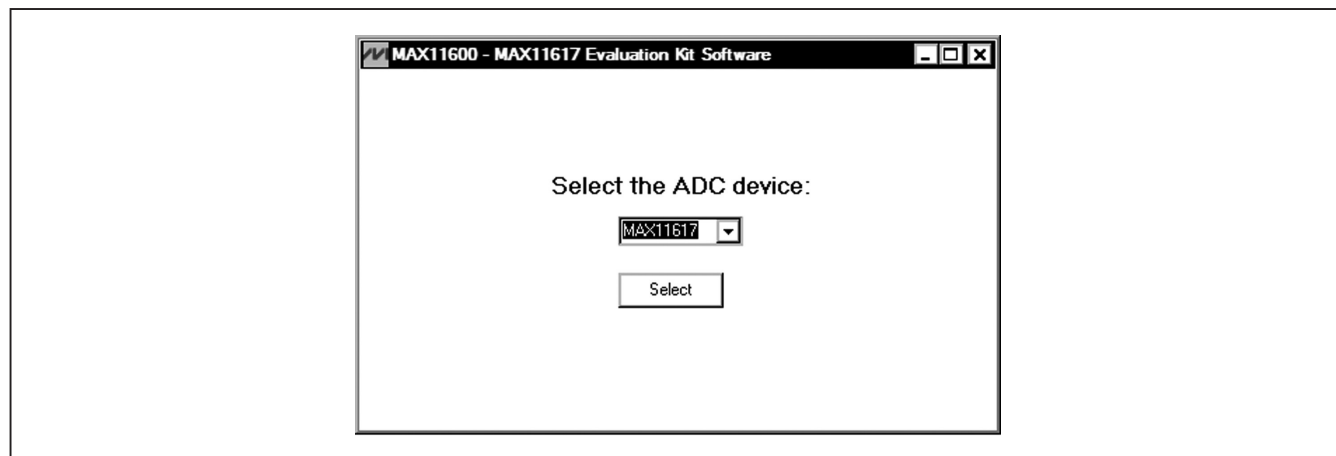
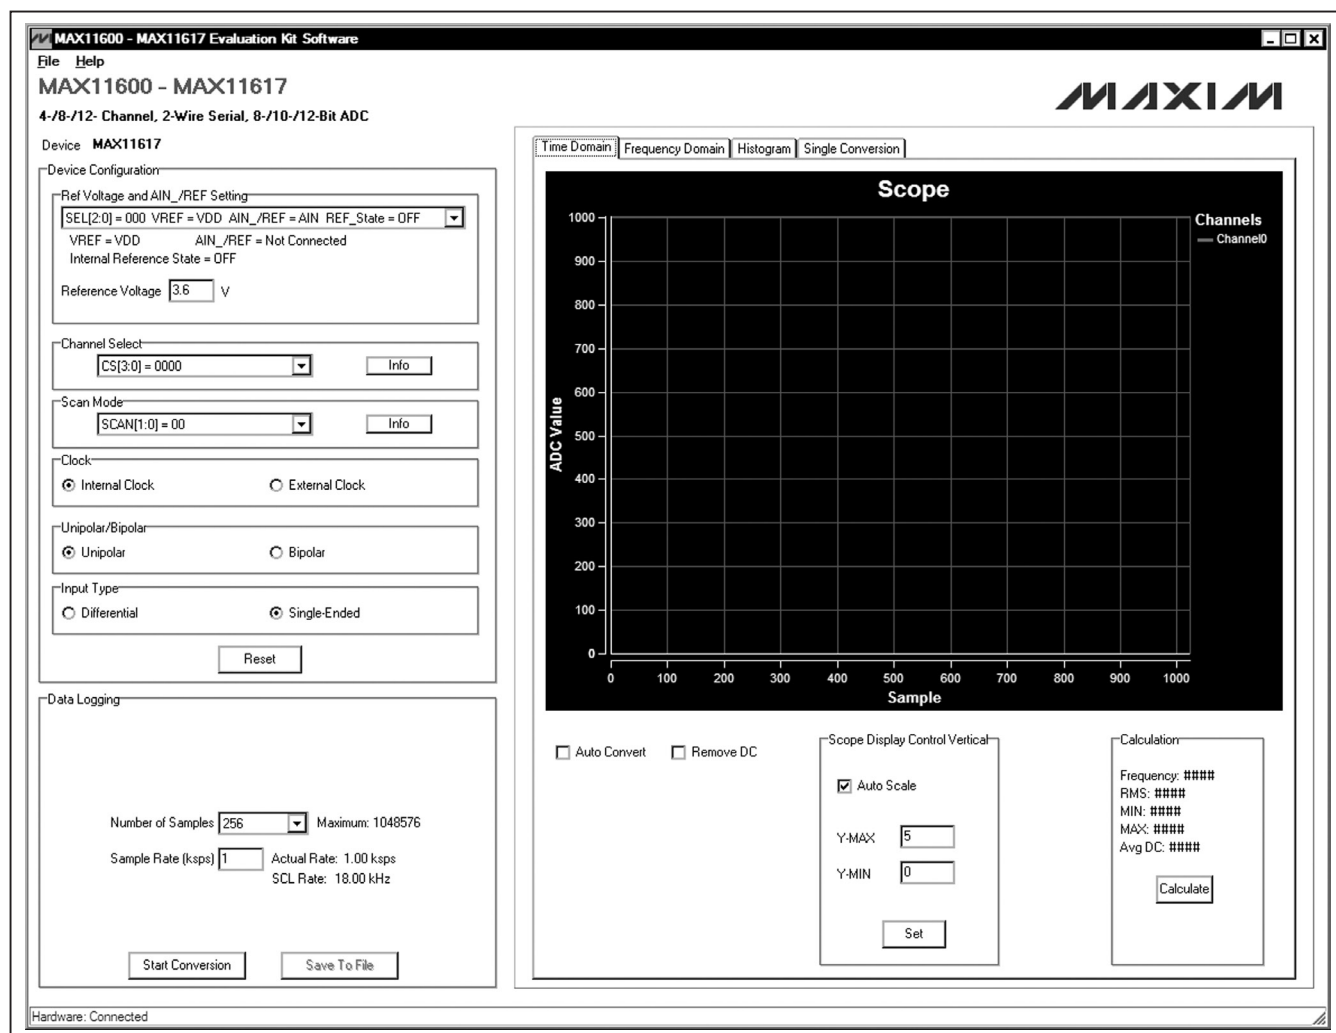
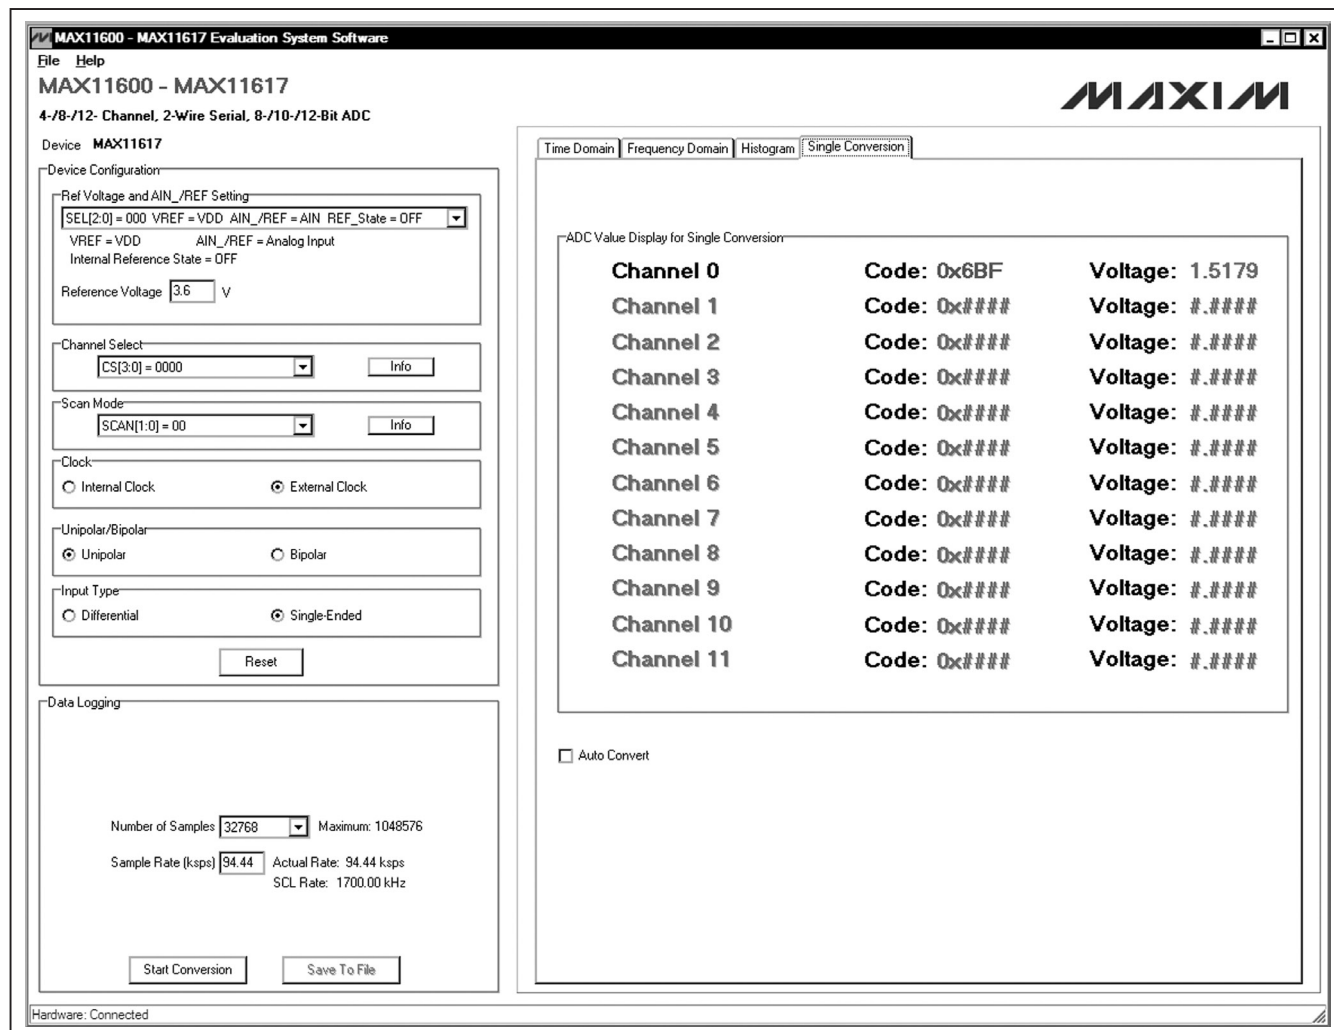

Figure 1. MAX11600-MAX11617 EV System Software Device Selection Window
Figure 2. MAX11600-MAX11617 EV System Software Main Window
Figure 8. Single Conversion Tab
- 11) Start the MAX11600–MAX11617 EV system software by opening its icon in the **Start | Programs** menu. The EV system software device-selection window appears, as shown in Figure 1. Select the appropriate device from the **Select the ADC device** drop-down list. The EV system software main window appears, as shown in Figure 2.
The MAX11600-MAX11617 EV system software supports all the MAX11600-MAX11617 ADC devices. When the EV system software starts up, select the appropriate device from the **Select the ADC device** drop-down list shown in Figure 1. Press the **Select** button to bring up the main software window.
The main window of the evaluation software (Figure 2) contains a **Device Configuration** group box, a **Data Logging** group box, and four tab sheets to display the sampled data.
The **ADC Value Display for Single Conversion** group box in the **Single Conversion** tab sheet (Figure 8) displays the **ADC Codes** and the calculated **Voltage** values for a single sample of all the channels that associate with the selected scan mode. Pressing the **Start Conversion** button in the **Data Logging** group box shown in Figure 2 updates the status of the **ADC Value Display for Single Conversion** group box.